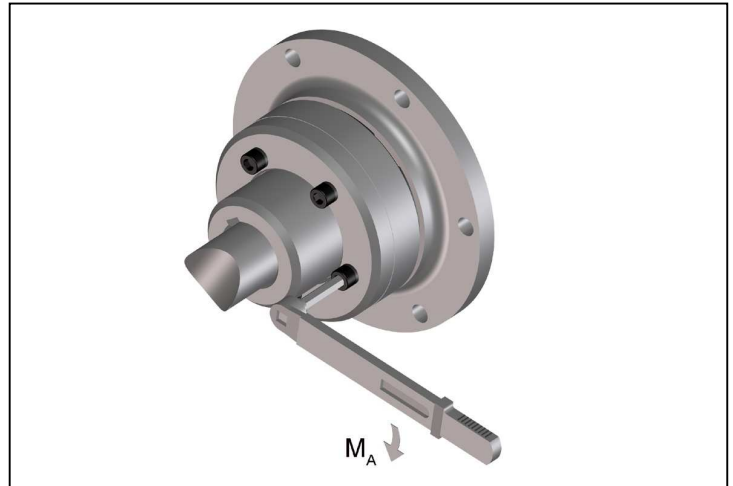

Fig. 14
- Tighten the claw ring screws to the tightening torque  $M_A$  specified in table 11 (Fig. 14).